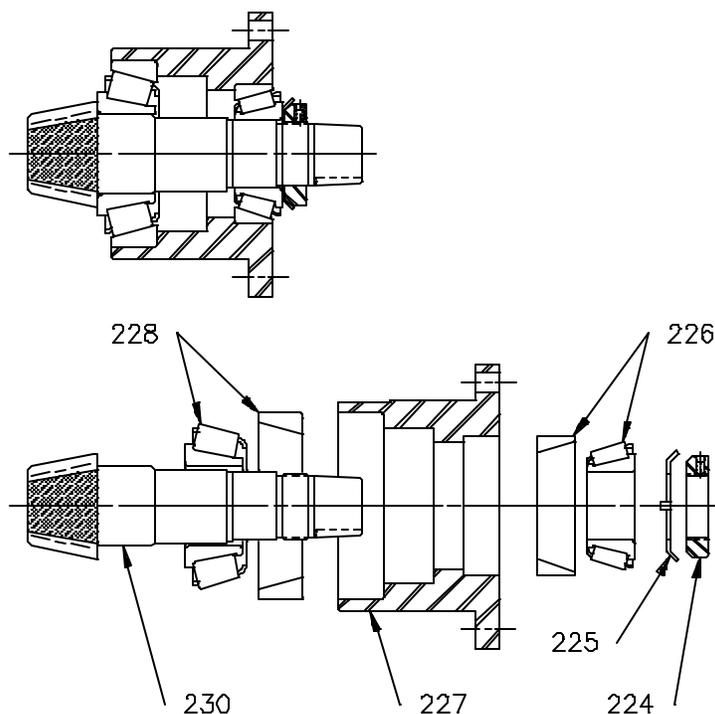

Figure 1: Spiral Bevel Pinion Cartridge Assembly [223]
| Figure 1: Spiral Bevel Pinion Cartridge Assembly | 4 |
7. Remove spiral bevel pinion cartridge assembly [223] (Figure 1, page 4) and shim set [236]. Keep the shim set intact for reference at assembly.